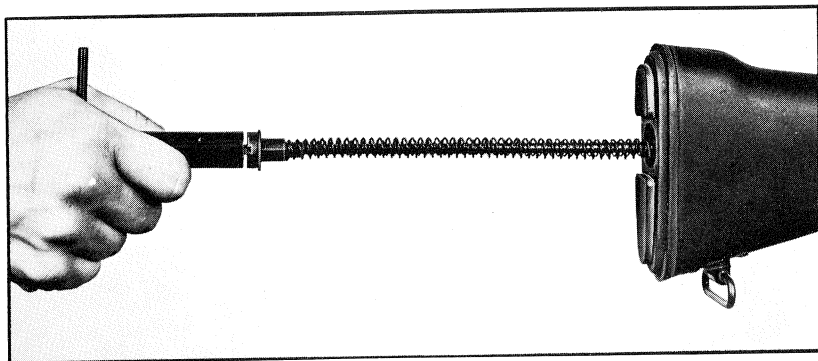

Fig. 113
a) **Return springs.** — Using a special tool, unscrew the butt screw, hold the tool firmly in order to balance the action of the springs (fig. 113).
- Insert the tool stem into the return springs and compress the springs (fig. 113).